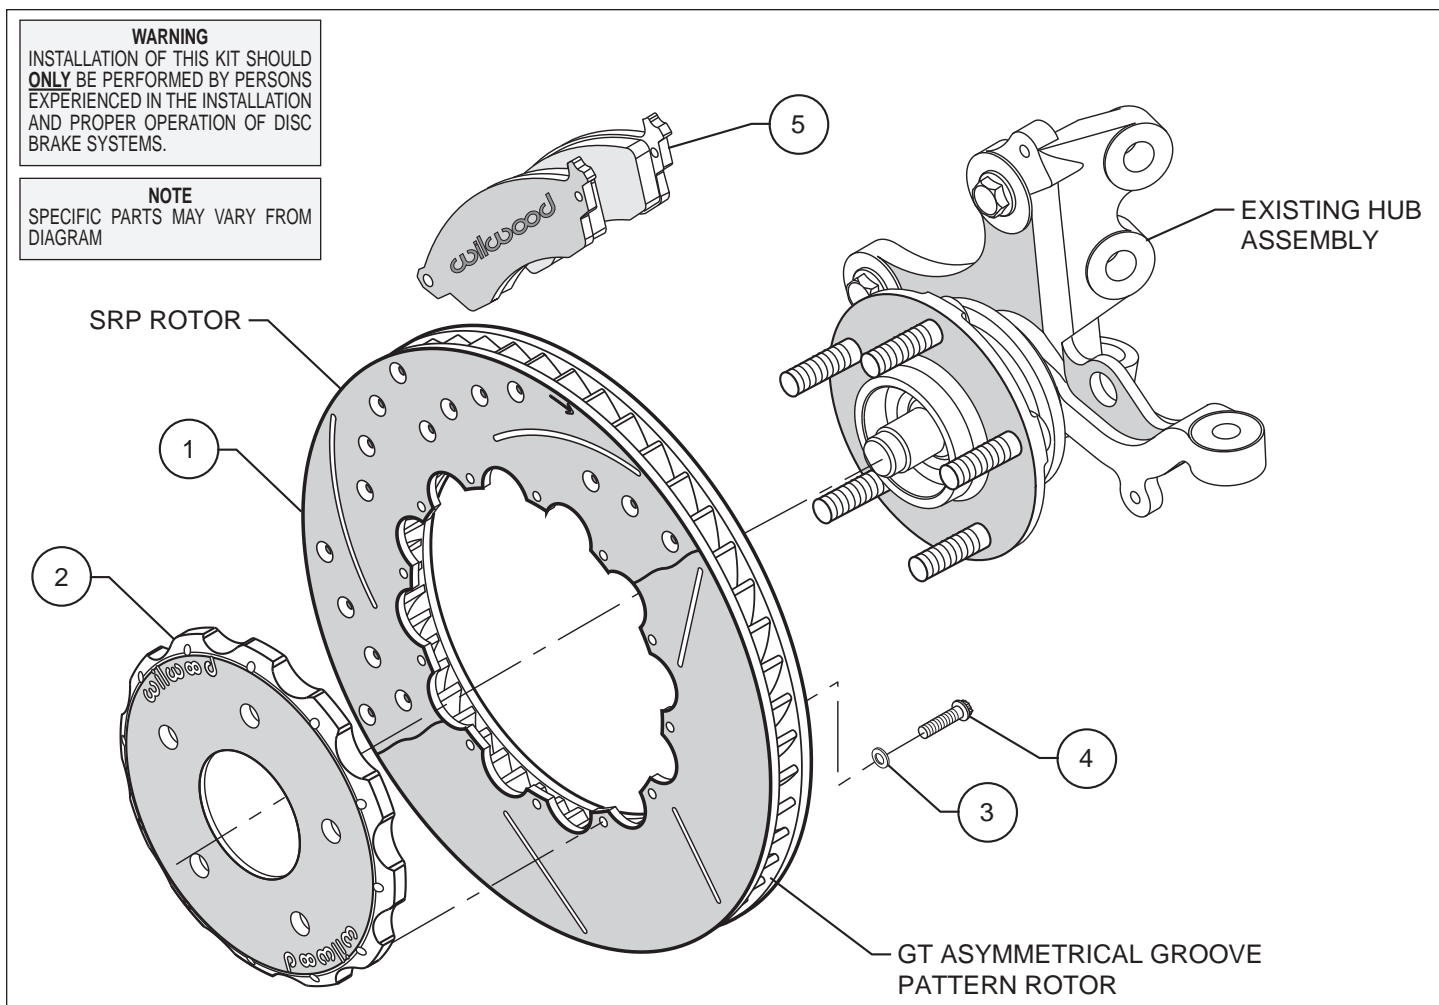
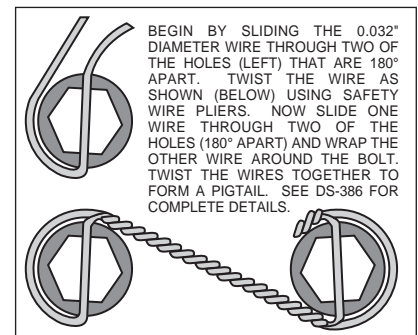

Figure 1. Typical Installation Configuration
Figure 2. Safety Wire Diagram
- Assemble the rotor (1) to the hat (2) with the bolts (4) and washers (3) provided in the configuration shown in Figure 1. Using an alternating sequence, apply red *Loctite*® 271 to the threads and torque bolts to 155 **in-lb**. For an added measure of security, the bolts may be safety wired using standard 0.032 inch diameter stainless steel safety wire as shown in Figure 2. Please refer to Wilwood's data sheet DS-386 (available at [www.wilwood.com/Pdf/DataSheets/ds386.pdf](http://www.wilwood.com/Pdf/DataSheets/ds386.pdf)) for complete safety wire installation instructions.